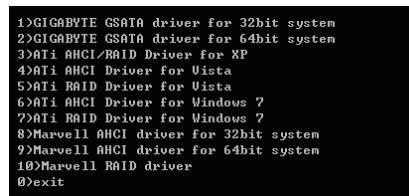

Figure 2
- 2: From your optical drive folder, double click the **Menu.exe** file in the **BootDrv** folder. A Command Prompt window will open similar to that in Figure 2.
- 3: Insert the blank formatted disk (if you're using a USB floppy disk drive, make sure it is designated as drive A). Select the controller driver by pressing the corresponding letter from the menu and press <Enter>. For example, from the menu in Figure 2,